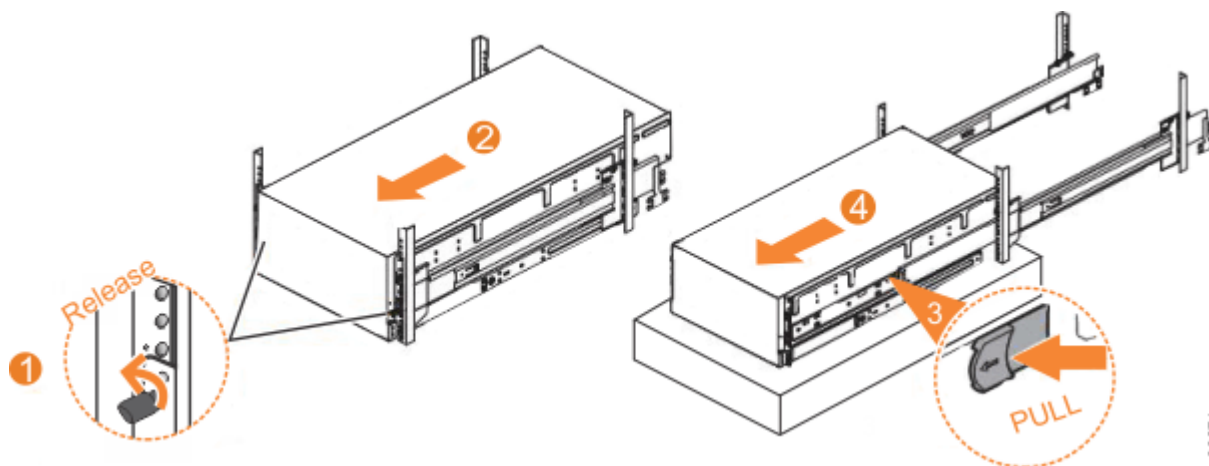

Figure 88. Removing the 5U expansion enclosure from the rack
1. Loosen the locking thumb screws (1) on the front of the enclosure, as shown in Figure 88 on page 155.
2. Carefully slide the enclosure forward out of the rack (2), as shown in Figure 88 on page 155.
3. Locate the left and right blue release tabs near the front of the enclosure. Pull both release tabs forward to unlock the drawer mechanism (3) in Figure 88 on page 155).
4. Slide the enclosure and inner rail member out of the rack (4) in Figure 88 on page 155).